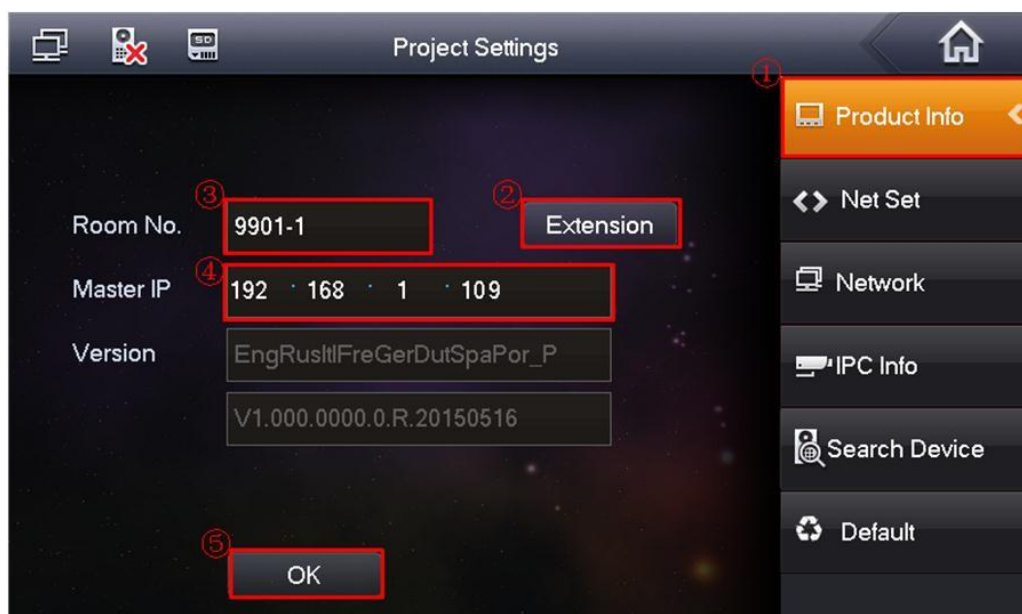

Figure 2-10
Step1 Press Product Info, See Figure 2-10